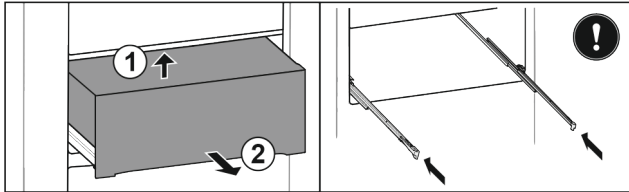

Fig. 38
- ▶ Lift it up at the back from below Fig. 38 (1).
- ▶ Take out to the front Fig. 38 (2).